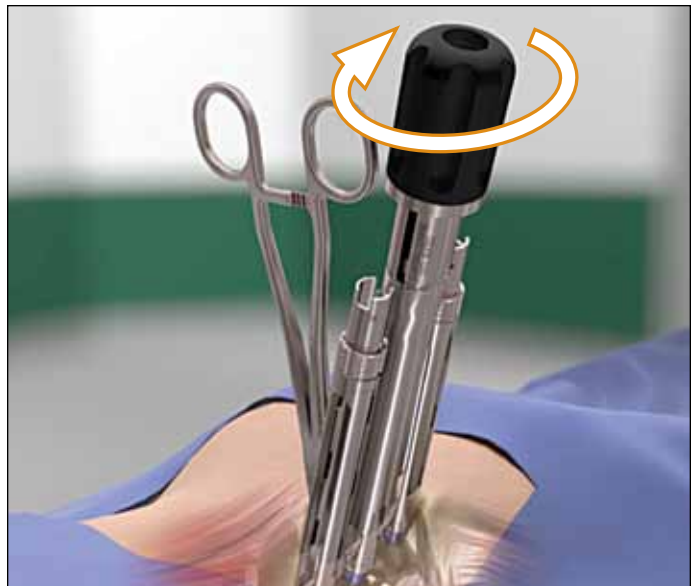

FIG. 27
- Rotate the black knob of the External Rod Reducer clockwise until the rod is fully seated. (FIG. 27)